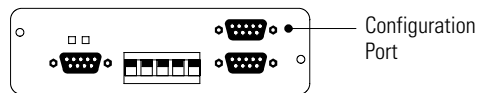

Figure 14. Configuration Port
1. Connect the supplied serial cable from the configuration port on the Modbus Card to an available RS-232 communication port on your computer (see Figure 14).